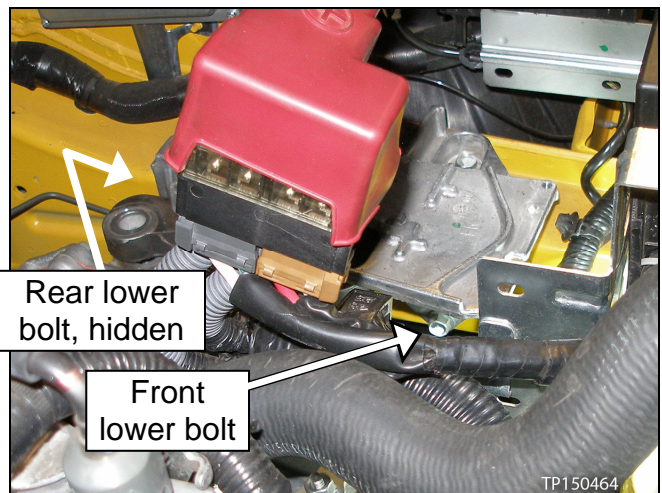

Figure 11
11. Remove the two (2) lower bolts (see Figure 11 and 12).